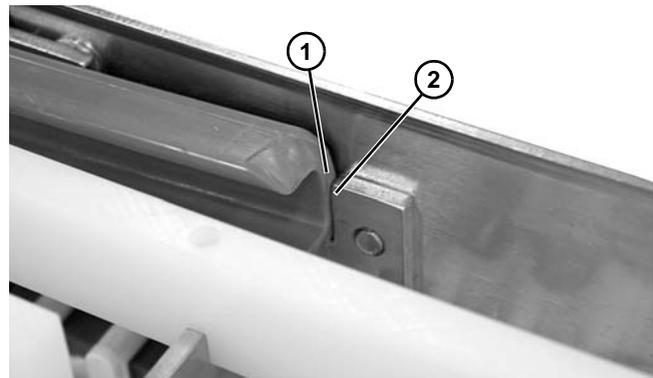

Figure 40
3. When installing a new wear strip, make sure the wear strip (**Figure 40, item 1**) is contacting the crossmember tab (**Figure 40, item 2**).